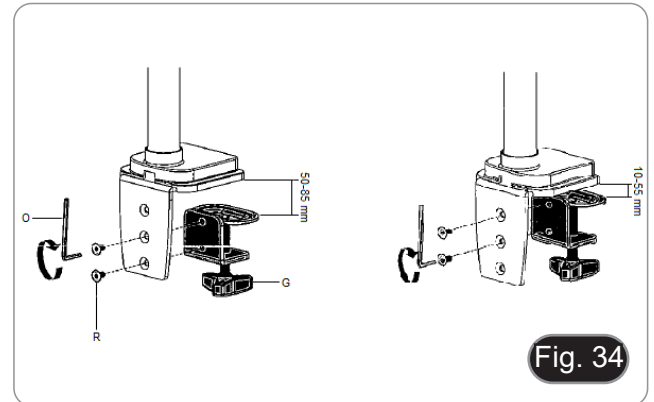

Fig. 34
4. Attach the clamp (G) to the clamp holder (F) using the two screws (R). (Fig. 34)
- **NOTE: Depending on the thickness of the table, the clamp (G) can be mounted in two different positions.**